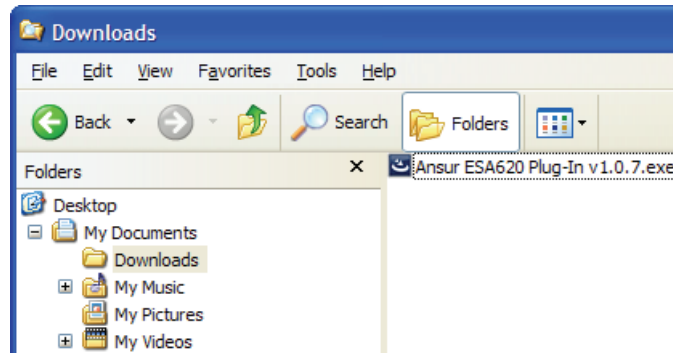

Figure 2-1. ESA620 Plug-In Installation File Location
1. Open **Windows Explorer** and browse to the saved ESA620 Plug-In installation program file, usually named **Ansur ESA620 Plug-In Vn.n.n.exe**, where *n.n.n* is the Plug-In version number. See Figure 2-1.